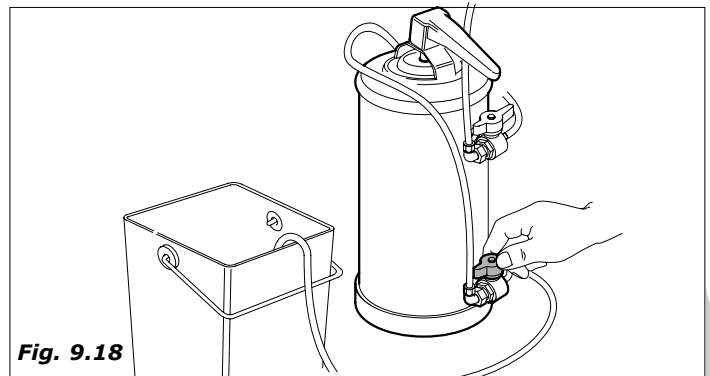

Fig. 9.18
- turn the lower faucet being careful to put the relative hose in a bucket or better in a drain (Fig. 9.18).